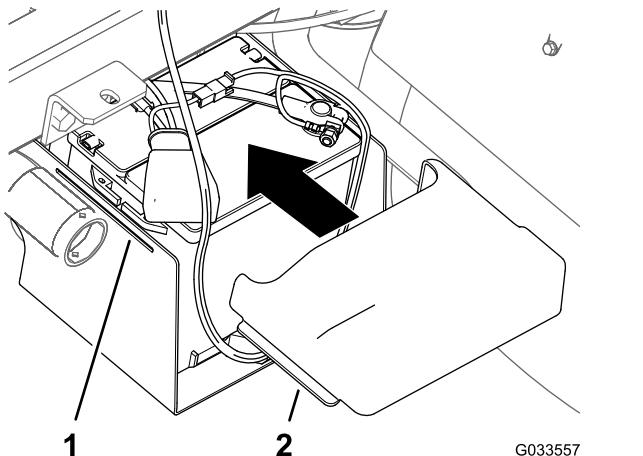

Figure 33
- Squeeze the sides of the battery cover, align the tabs of the cover with the slots in the battery base, and release the battery cover (Figure 33).